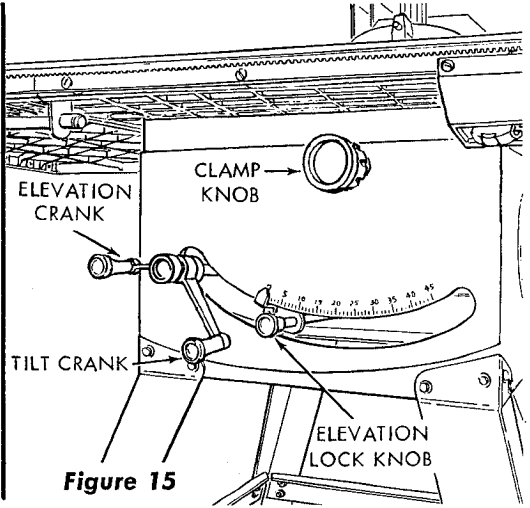
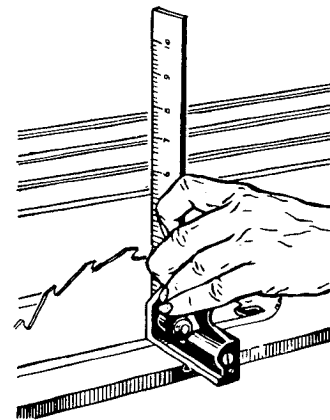

Figure 15
Figure 16
- (1) Loosen the elevation lock by pulling out the elevation lock knob and rotate the elevation crank to raise the saw blade to the deepest cut position. (See figure 15.) Push elevation lock in.
- (2) Loosen the clamp knob and rotate the tilt crank counterclockwise until it will rotate no farther.
- (3) With the saw blade in position described above, tighten the clamp knob to secure the tilt mechanism.
- (4) Place a square on the saw table and against saw blade. (See figure 16.) The blade should be at 90 degrees (perpendicular) to the table top surface.
- (5) If the blade is not square with the table top, loosen the clamp knob (figure 15) and rotate the tilt crank to move the mechanism off the 90° stop. This can be accomplished by rotating the tilt crank until the pointer on tilt scale indicates approximately 10 degrees. Rotate the 90° stop screw in table top with a 3/16-inch hex-"L" wrench to produce an approximate correction. (See figure 17.) Rotate the tilt crank until the saw blade is stopped by the 90° stop screw and recheck with the square for an exact 90° position of the saw blade. Continue these trial settings until the saw blade stops at exactly 90° with the table top.
- (6) When the saw blade is adjusted squarely with the table top, check the pointer on the tilt gauge, which should be positioned at exactly "0" (zero) degrees. (See figure 15.) If not at zero, loosen the attaching screw and align pointer with the "0" mark, then tighten the screw.